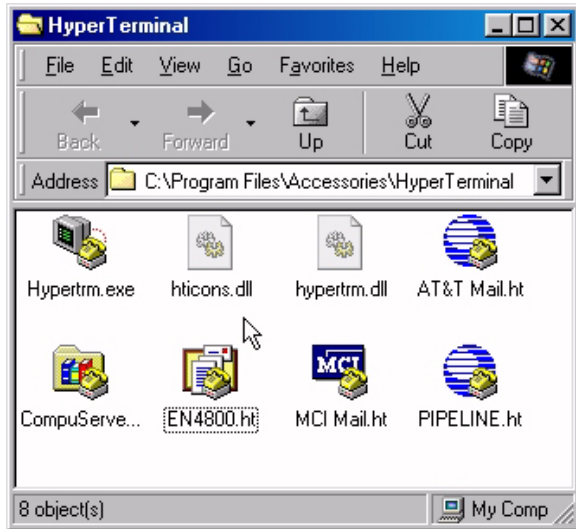

Figure 3-1. *Launching Hyper Terminal program*
1. Start Hyper Terminal Program – With Windows, select: Start / Programs / Accessories / Communication / Hyper Terminal / Hypertrm.exe. Create a new connection and choose a name, for example EN4800. These steps are shown in Figures 3-1 and 3-2.